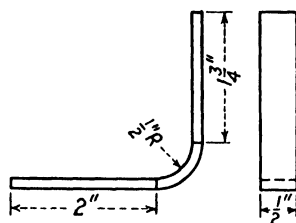

Fig. 246.—1/8-in. cold-rolled steel, 90° bend.
3. Find the bend allowance and the over-all length of the fitting shown in Fig. 246.
4. Draw the flat pattern for the fitting in Fig. 246, accurate to the nearest 64th of an inch.